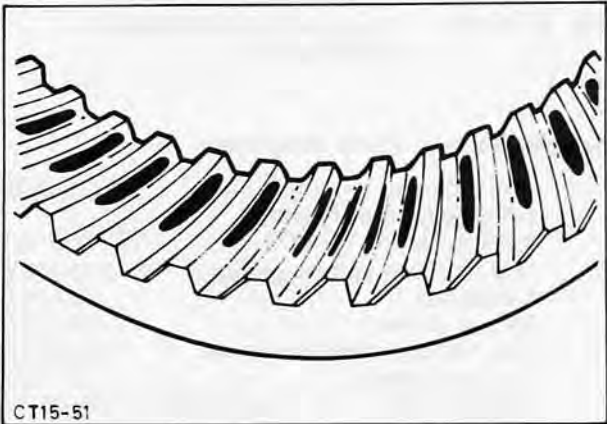

Fig. 53. Optimum tooth pattern
39. Check tooth pattern: New crown wheels will still show optimum tooth pattern marks left by testing in the factory, Fig. 53.